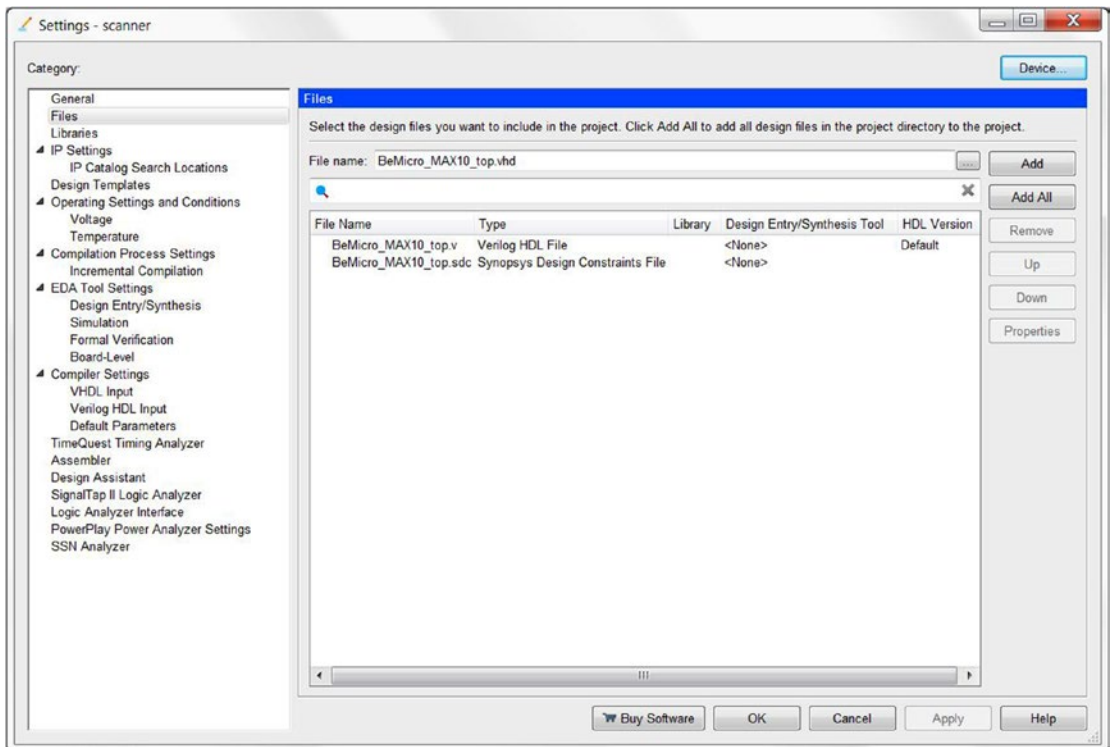
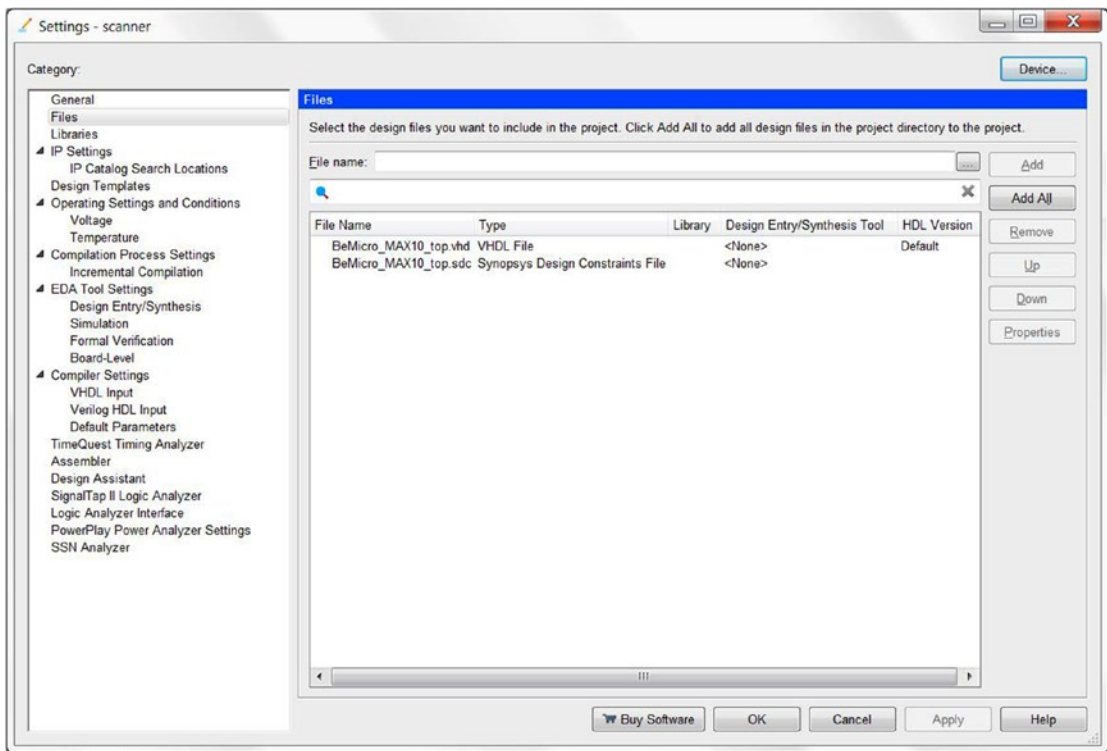

Figure 4-18. Quartus Prime—Files Settings
Figure 4-19. Quartus Prime—Files Settings Completed
2. In the Files Setting dialog box, you will see there are two files name (see Figure 4-18).
3. Select **BeMicro_MAX10_top.v** and then click **Remove**. Enter **BeMicro_MAX10_top.vhd** in File Name box and then click **Add** (Figure 4-18). Click **Apply**. The completed File Settings should look like Figure 4-19. It has two files. The first one is **BeMicro_MAX10_top.vhd**. The second one is **BeMicro_MAX10_top.sdc**. If the files are included correctly, then click **OK** (Figure 4-19).